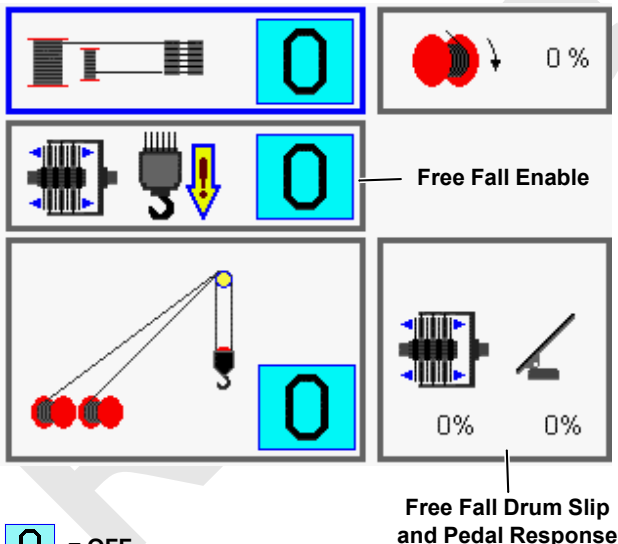

FIGURE 3-25
- c. Turn drum free fall **on** in Drum Functions Screen shown in Figure 3-25.
NOTE: Adjust drum slip and pedal response, as required, in the Drum Functions Screen (Figure 3-25). See Drum Functions on Page 3-59.
- b. Turn drum free fall **off** in Drum Functions Screen for each drum, as shown in Figure 3-25.